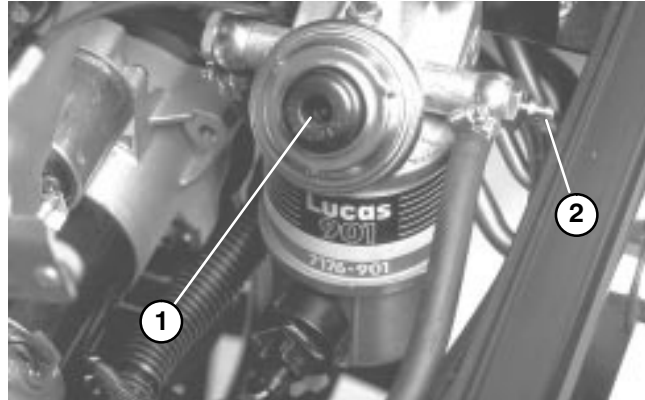

Figure 22
PRIMING FUEL SYSTEM (Fig. 22 & 23)
3. Loosen fuel filter / water separator bleed screw (Fig. 22) a few turns. Pump priming plunger until a steady stream of fuel comes out of hole in bleed screw. When fuel stops foaming, tighten the bleed screw during the downstroke of the priming plunger. Wipe up any spilled fuel.